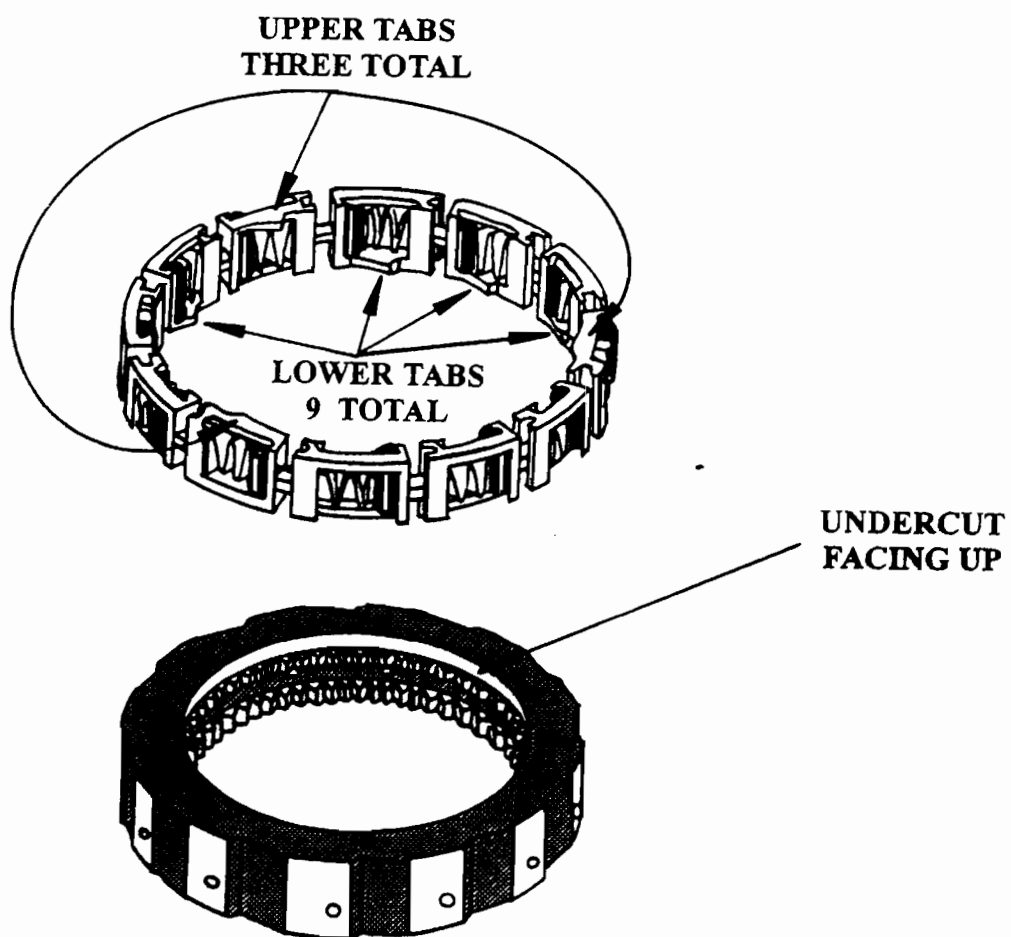

Figure 22
- (1) Place the new inner cam on a flat work surface with the "Undercut" on the inside diameter facing **up**, as shown in Figure 22.
- (2) Install the overdrive roller clutch assembly over the inner cam, **with the 9 locking tabs on the inner diameter facing down, and the three upper locking tabs facing up**, as shown in Figure 22.